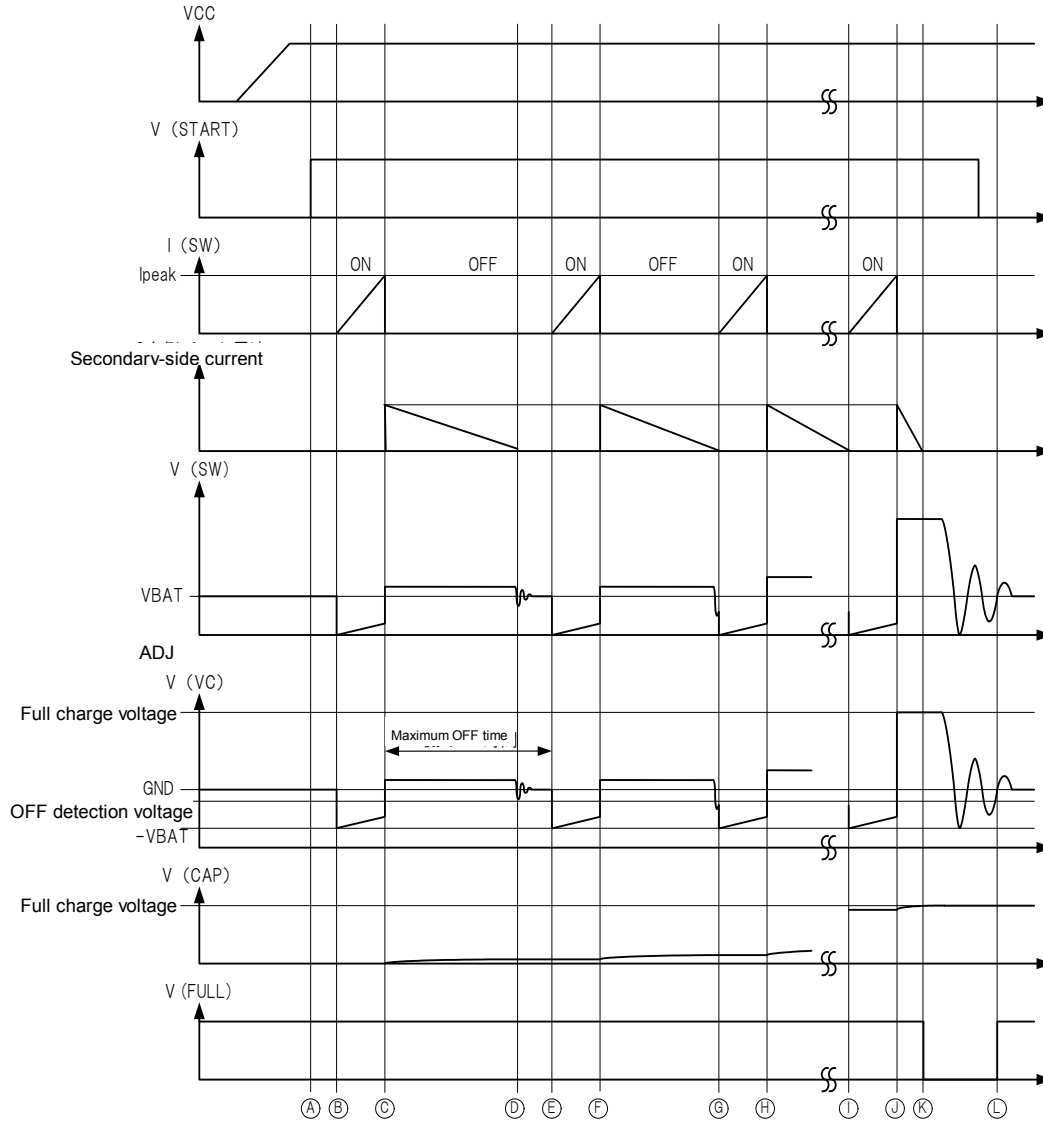

Fig 32. Timing Chart 2: Switching Operation
The switching operation of this IC is shown in Fig.32 Timing Chart 2.
If the START pin is set to "H", all internal circuits are reset, the internal PowerTr is turned ON. (See Fig 32. Time ①→②.) While the internal PowerTr is turned ON, a current is passed into the SW pin. When the current specified at the RADJ pin voltage is reached, the PowerTr is turned OFF. (See Time ③ in Fig 32.) The time t_{ON} when the PowerTr is ON is indicated as follows:
When the energy release to the transformer secondary-side is completed, the VC pin voltage and the SW pin voltage produce resonance by the parasitic capacitance and the transformer inductance. (See Time ④ in Fig 32.) At this time, unless the VC pin voltage becomes the GND voltage or less shown, the PowerTr remains OFF till the maximum OFF time is reached. (See Time ⑤ in Fig 32.) As soon as the OFF detection voltage or less is reached, the PowerTr is turned ON. (See Time ③ in Fig 32.) The time, t_{OFF} when the secondary-side releases energy is represented by the following equation:
When it is detected that the internal PowerTr is left OFF for over the maximum OFF time specified in the electrical characteristics, the PowerTr is forced to be turned ON. This occurs unless the VC pin voltage becomes the OFF detection voltage specified in the electrical characteristics or less. (See Time ㉛ in Fig 32.)
VC pin node is divided by between transformer Secondary node and Fast recovery diode anode side by resistor R_{FB1} , R_{FB2} and R_{FB3} . When VC pin voltage reach until full charge voltage as Fig.32 timing chart ①~④, charge is stopped.